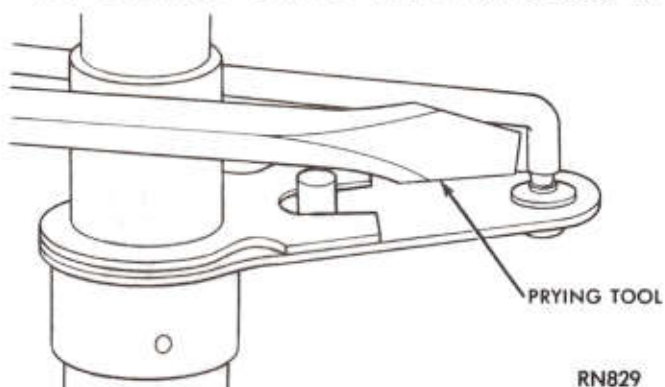
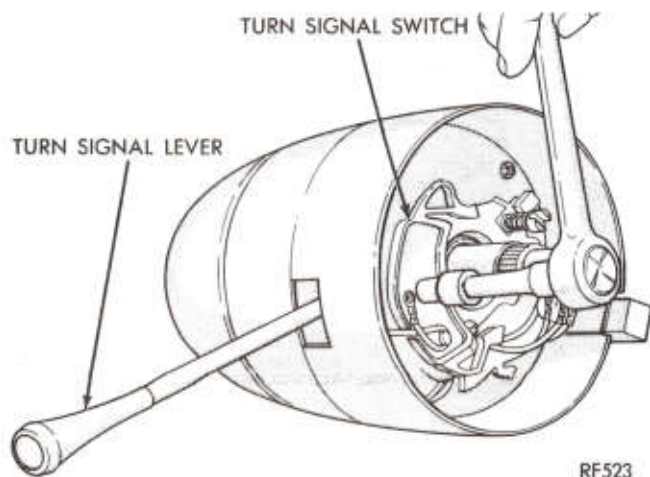

Fig. 3—Prying Rod out of Grommet
Fig. 4—Turn Signal Lever
- (1) Disconnect negative (ground) cable from battery.
- (2) On vehicles equipped with column shift, disconnect link rod by prying rod out of grommet in shift lever (Fig. 3).
- (3) Remove steering shaft lower coupling to wormshaft roll pin.
- (4) Disconnect wiring connectors at steering column jacket.
- (5) Remove steering wheel center pad assembly.
- (6) Disconnect horn wire and remove horn switch, (if applicable).
- (7) Remove steering wheel retaining nut. Remove steering wheel with Tool C-3428B. **Do not bump or hammer on steering shaft to remove wheel.**
- (8) Remove turn signal lever (Fig. 4).
- (9) Remove floor plate to floor pan attaching nuts.
- (10) To expose steering column bracket (See "Electrical" Group 8).
- (11) Remove panel lower reinforcement.
- (12) Disconnect "PRND21" cable from bracket on